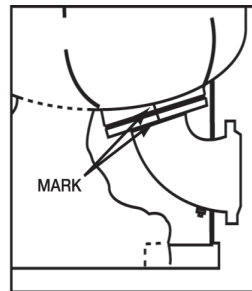

Figure 3
6. Unbolt and remove system connection after marking flanges in order to align during reassembly (Figure 3).
22. Rebolt system connect after aligning flange marks (Figure 3). Torque to 40-50 ft. lbs.